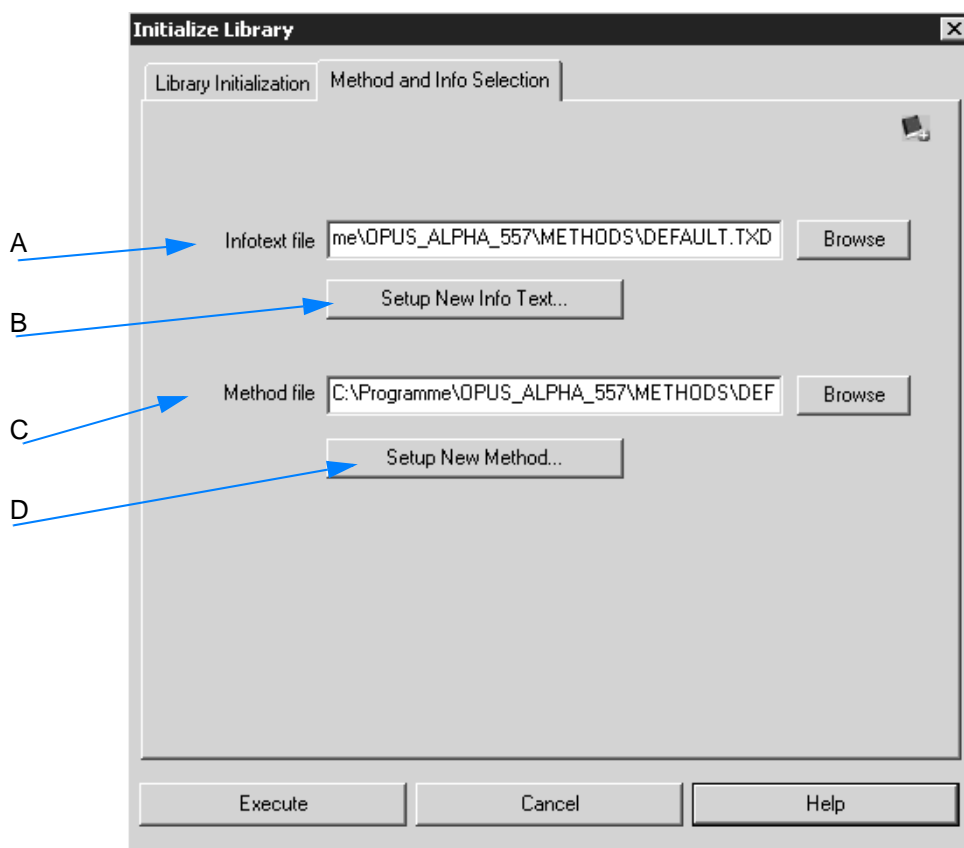

Figure 173: Creating empty library
Click on the *Setup New Info Text* button (B in figure 173). The following dialog opens:
- E To store the newly created text mask click on the *OK* button. The *Save File* dialog opens. Define the name of the text mask. After saving the text mask the *Method and Info Selection* tab (figure 173) will be displayed again.
Click on the Setup New Method button (D in figure 173). The following dialog opens:
- B The *List of all Parameters* selection field shows all parameters available, depending on the parameter type selected (A). To select a particular parameter left click on it and move it to (C) by using the arrow button.
- D If you click on the *OK* button, the *Save File As* dialog pops up. Define the name of the method. After saving the method the *Method and Info Selection* tab will be displayed again (figure 173). Clicking on the *Execute* button on this tab creates a new library.